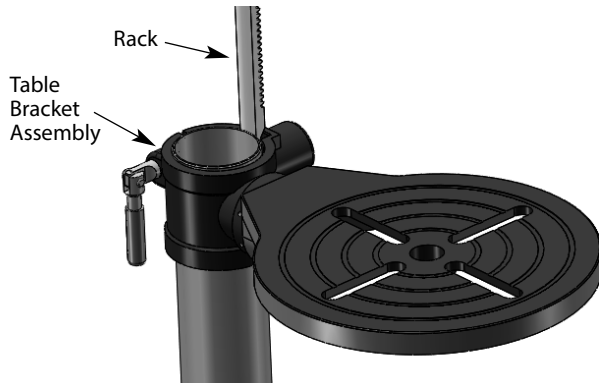

Figure 5 – Position table bracket assembly on column 9680341C.
Refer to Figures 5 and 6.
- Slide table bracket assembly with rack over column. Place bottom end of rack inside beveled edge of column flange. See Figure 5.